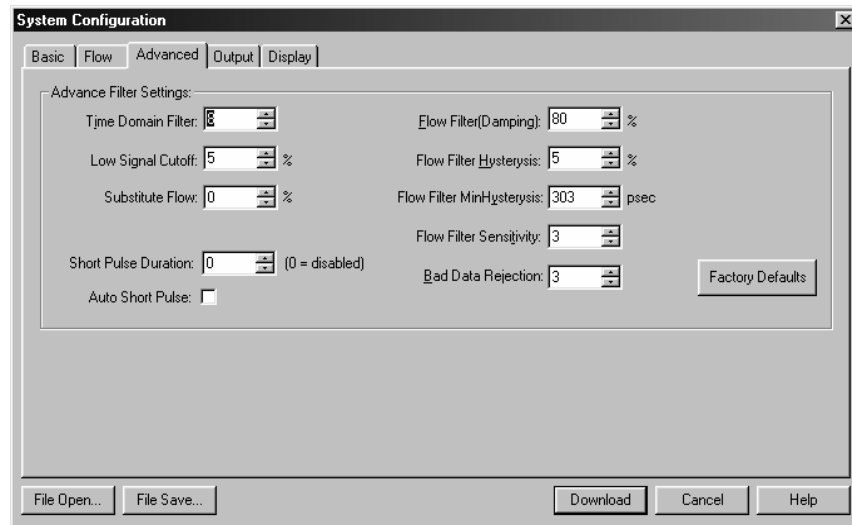

Figure 4.4
3. **ADVANCED TAB** - see **Figure 4.4**